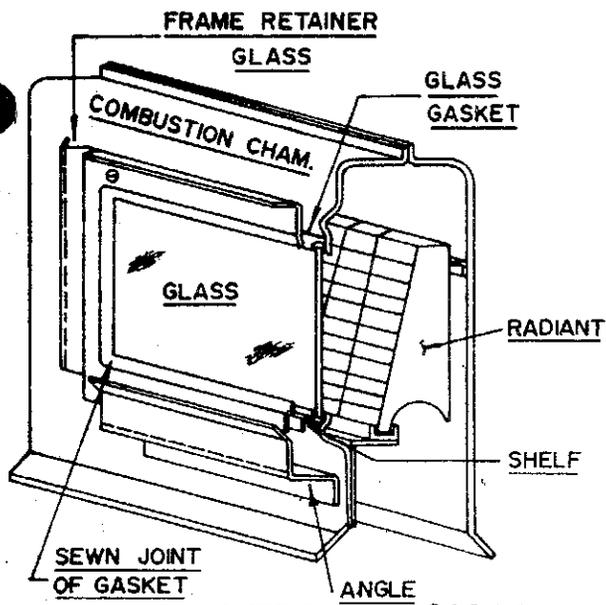

FIGURE 3
1. Make sure that the glass gasket is evenly spaced on the edge of the glass and that the sewn joint of the gasket is at a corner of the glass. See Figure 3.